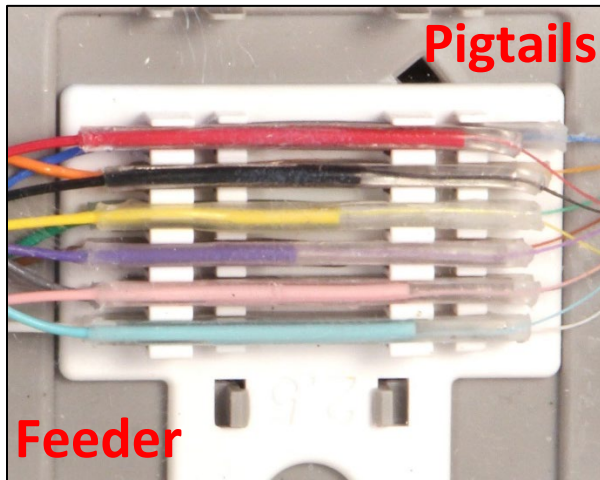

Figure 8
3. Fibers from buffer tube should approach from left as pictured, pigtails from right side of chip (Figure 8)